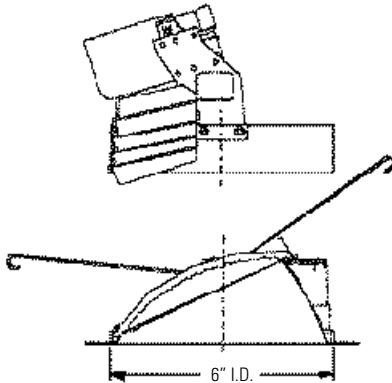

FIG. 1 – LAMP/YOKE ASSEMBLY & LENS WALL WASHER TRIM
1. **INSTALL LAMP/YOKE ASSEMBLY (Figs. 1 & 3)**